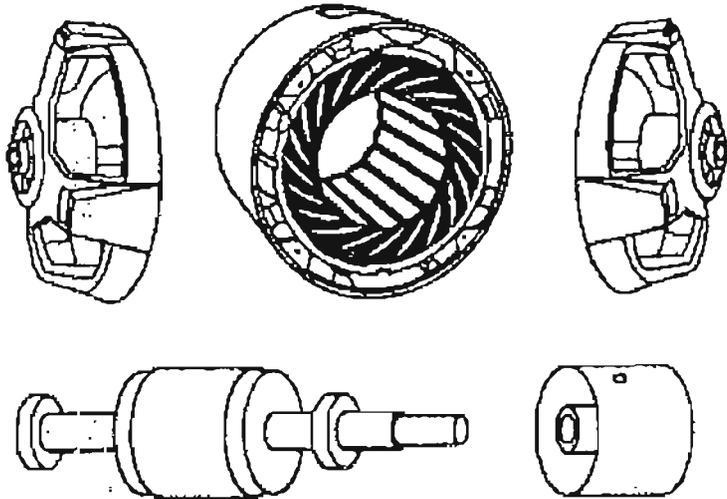

Fig. 8.
**If the bearing is worn out replace it with a new one. All fastening devices should be kept in a separate tray. The dismantle parts are shown in Fig. 8.**